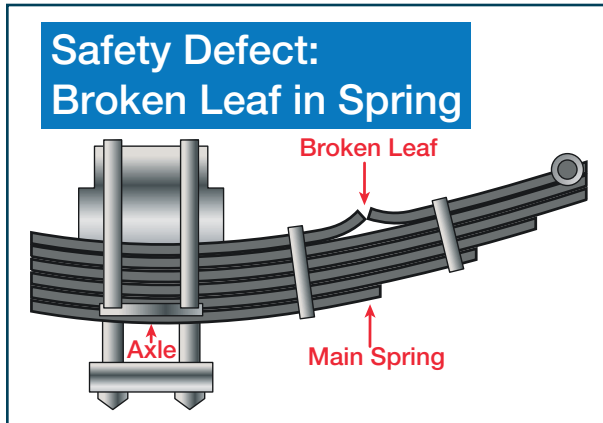

Figure 2.3
- Missing or broken leaves in any leaf spring. If one-fourth or more are missing, it will put the vehicle "out of service," but any defect could be dangerous (See Figure 2.3.);